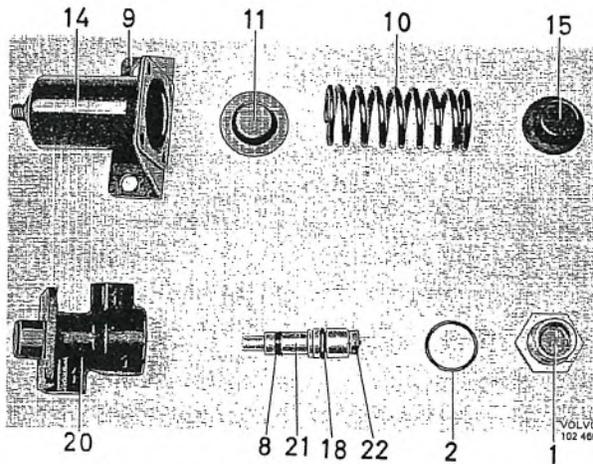

Fig. 5-59. Brake valve disassembled
2. Screw out the plug (1) and press out the piston complete, see Fig. 5-59.